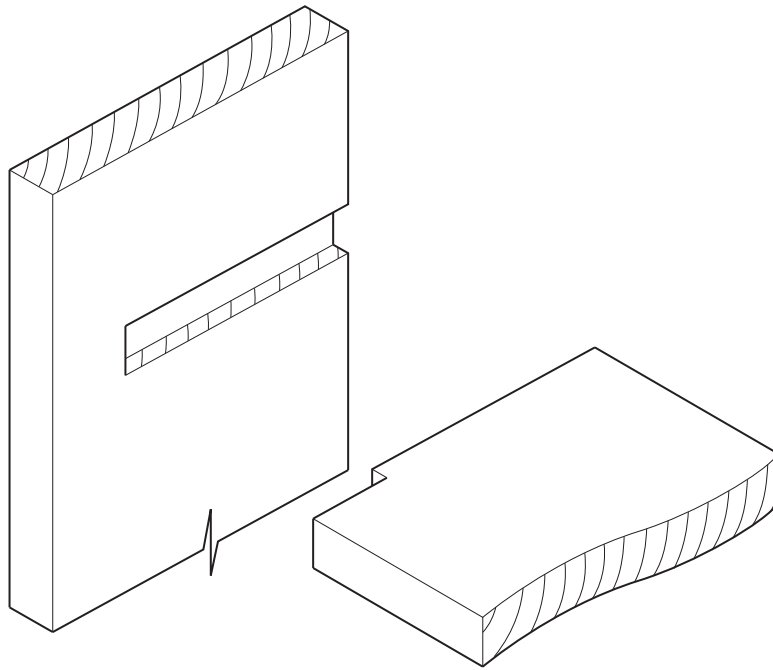

Fig. 11
12 Fig. 11 shows details of a joint used in cabinet constructions.
- (a) Name the joint shown in Fig. 11. [2]